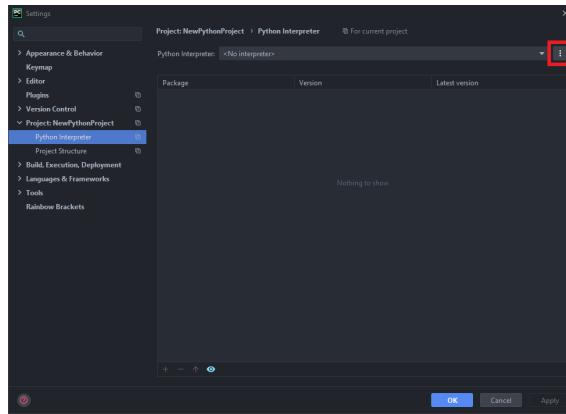

Figure 4.13: Add Interpreter to PyCharm
2. Select the button with three dots at the top right side of the screen (Fig. 4.13). Choose "Add..."